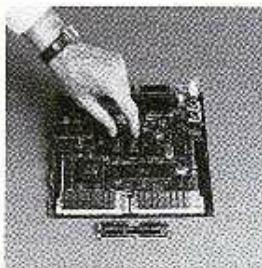

Figure 3-5
- a. Lay the main logic board on a flat surface and orient it to the position shown in Figure 3-5.
- b. Locate the Hi and Lo ROM chips on the main logic board. See Figure 3-5. The chips are identified on the board by "ROM-Hi" and "ROM-Lo."
- c. Place the ROM SIMM card in front of the main logic board and orient it to the position shown in Figure 3-5. Be sure the edge of the card with the silver edge connector strip is facing toward you and away from the main logic board.